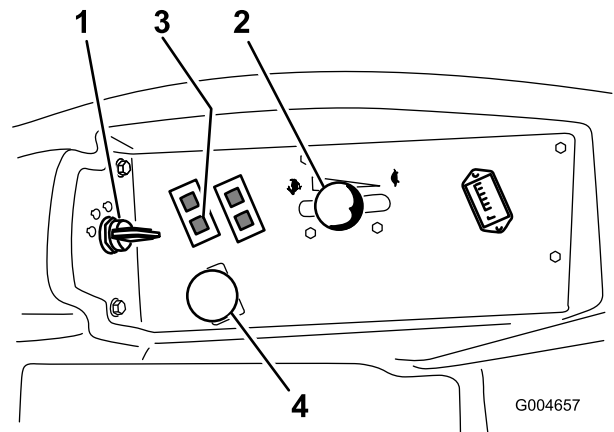

Figure 15
4. Move the PTO (power take-off) switch to the off position (Figure 15).
5. Move the throttle lever midway between the Fast and Slow positions (Figure 15).